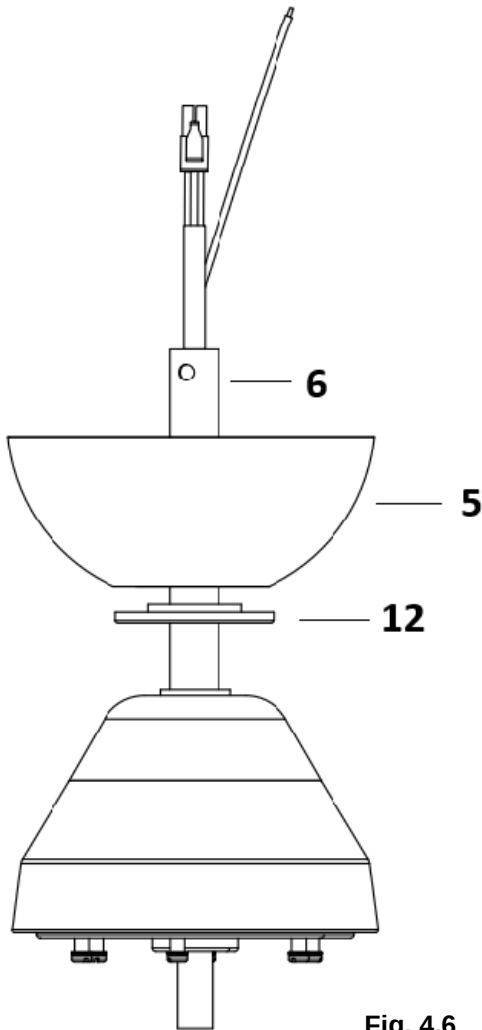
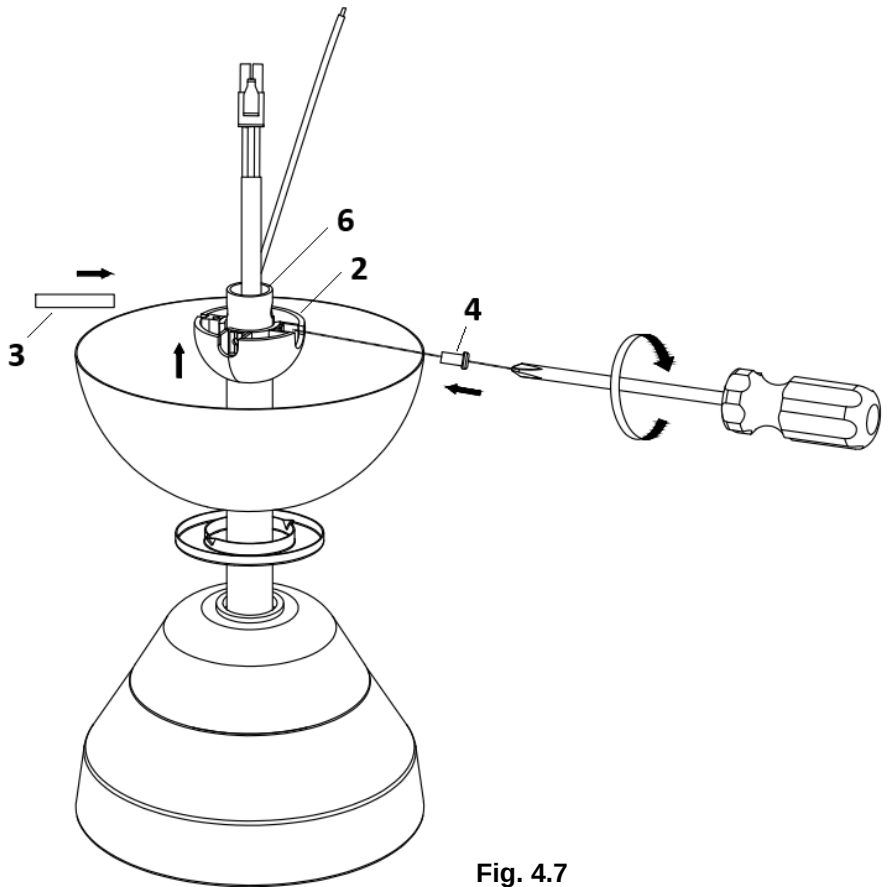

Fig. 4.6
Fig. 4.7
4. Insert the canopy cover (12) & canopy (5) over the down rod (6) and install the ball joint (2) and dowel pin (3) back onto the down rod (6) and secure by tightening the set screws (4). (Fig.4.6 & Fig.4.7)